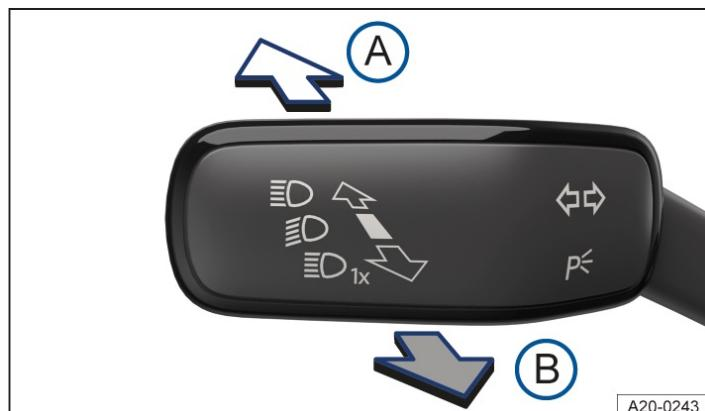

Fig. 1 On the left-hand side of the steering column: turn signal and main beam lever.
2. Push the turn signal and main beam lever forwards from the centre position → Fig. 1.
1. Pull the turn signal and main beam lever to the rear from the centre position → *Fig. 1*.
1. Pull the turn signal and main beam lever to the rear from the centre position and hold it → *Fig. 1*.